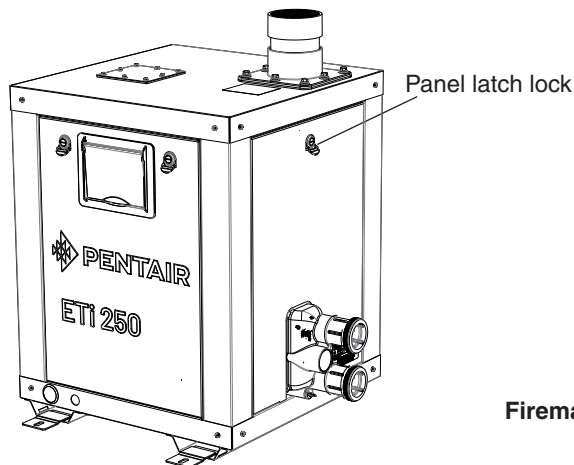

Figure 34.
- Connect the BLUE PLUG (120 VAC) into the 12-pin plug located on the electrical panel, see Figure 34).
2. Remove the side panel. Unlock the panel latch lock, see Figure 34 on page 42.